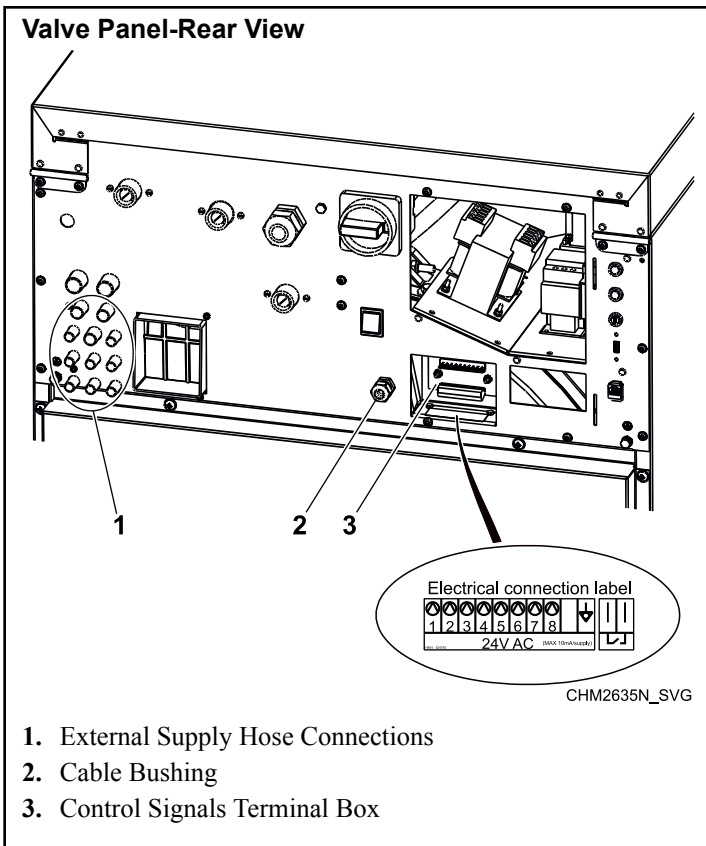

Figure 36
- 1. Facing the rear of the machine, locate the eight (8) 5/16 inch [8 mm] supply hose connections found on the left-hand side of the valve panel. Refer to *Figure 36*.
The electric connection for supply control signals is available on the rear panel. Refer to *Figure 36*. At the terminal box, there is a label for electric connection. Detail on connection of signals can also be found on the electric scheme of the machine.